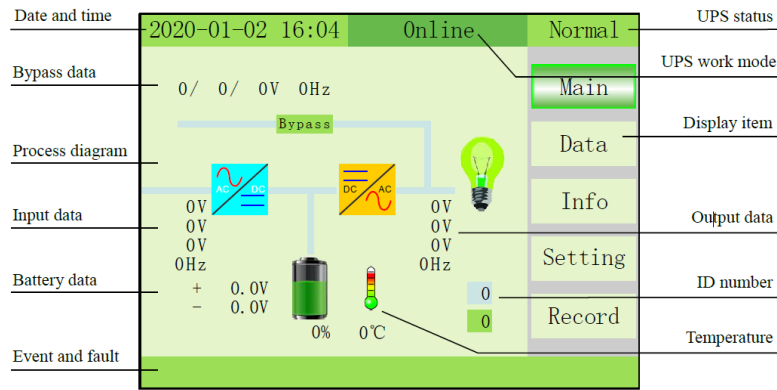

Fig. 3-7 Main interface
- 1) MAIN: The main interface below comes out when the power is connected or the system is cold start (Fig. 3-7). Shows UPS status graph.